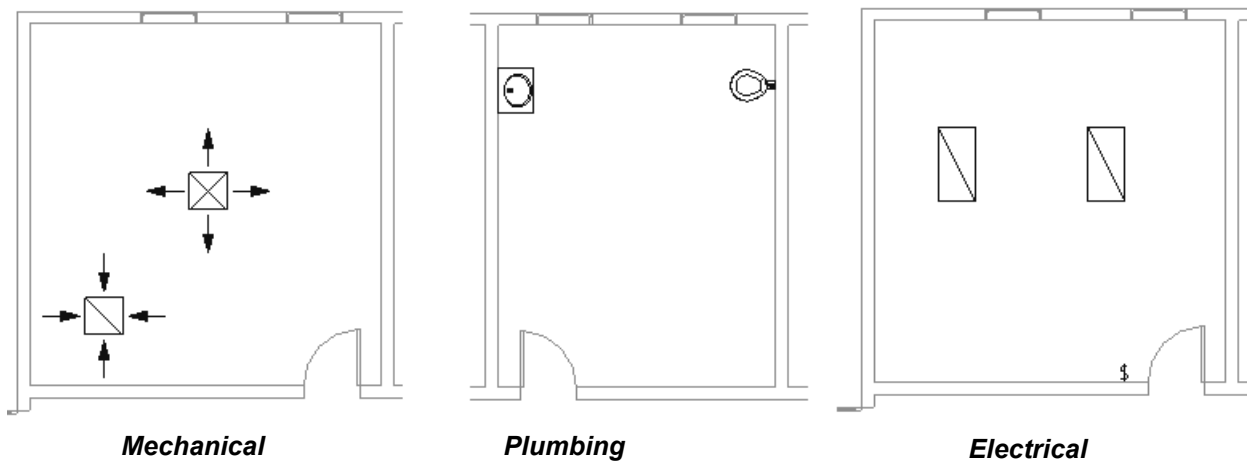

Figure 2–20
In this practice you will insert a variety of MEP fixtures, including air terminals, plumbing fixtures and lighting fixtures, as shown in Figure 2–20. You will use various drawing aids to help you place the fixtures appropriately.
5. Click near the center of room **Lab 101**, as shown in Figure 2–21.